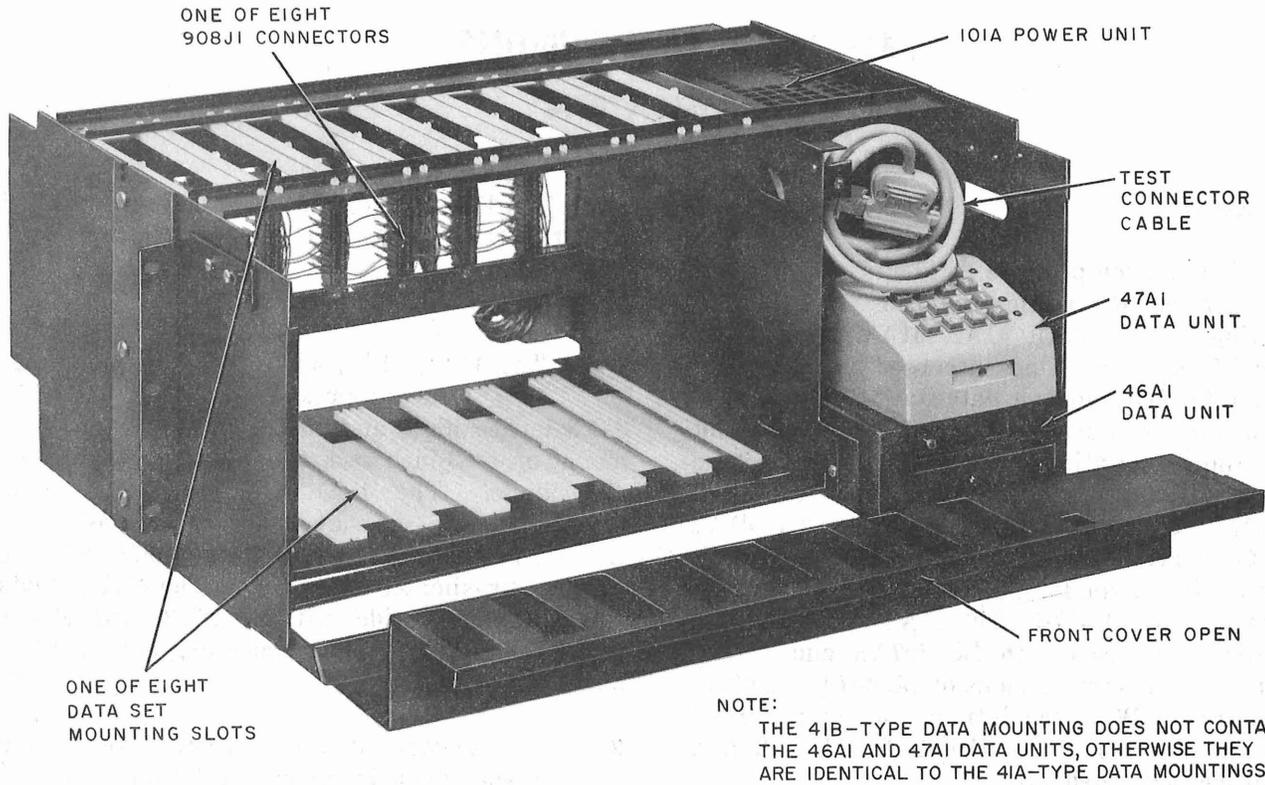

Fig. 1—41A-type Data Mounting With Front Cover Open
1.01 This section provides an identification and a general description of the 41-type data mountings. The 41A1, 41A2, 41A3, 41B1, 41B2, and 41B3 data mountings are used in conjunction with the 407-type multiple data station. A 41A-type data mounting is shown in Fig. 1. The 41A1 and 41B1 data mountings are rated manufacture discontinued (MD) and are replaced by the 41A2 and 41B2 data mountings, respectively. The 41A2 and 41B2 are identical to the 41A1 and 41B1, respectively, except for additional wiring required for data set (DS) 407B. The 41A3 and 41B3 data mountings are used with DS 407AR and 407BR, which are registered versions of DS 407A and 407B, respectively. With the introduction of the 41A3 and 41B3 data mountings, the 41A2 and 41B2 data mountings are rated MD.
2.01 The 41A1, 41A2, and 41A3 data mountings (Fig. 1) are approximately 23 inches wide, 8-2/3 inches high, and 16-1/2 inches deep. They mount on a 23-inch rack and weigh approximately 42 pounds. The 41B1, 41B2, and 41B3 data mountings have the same physical dimensions as the 41A1, 41A2, and 41A3 data mountings and weigh approximately 38 pounds. The 41-type data mountings are provided with eight 908J1 connectors, two KS-16672-L3 50-pin connectors, and one 101A power unit.